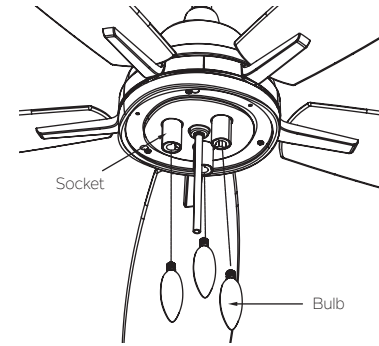

Fig. 22
Step 3. Insert 4-watt max LED bulbs (included) into each socket. When necessary, replace with bulbs of the same wattage. (Fig. 22)